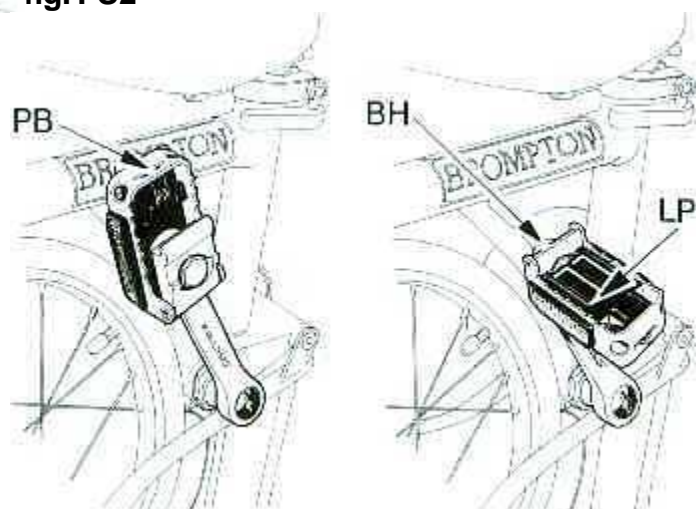

fig. FS3
*Left Hand pedal, fig FS3.* If this is fitted, unfold it by swinging the pedal body, PB, outwards. The latch plate, LP, will snap into position to lock the pedal in place.
*Saddle, fig FS1.* Undo the lever, QR, push the saddle right down, and re-clamp the lever. During this action, the lower end of the seat pillar passes behind the plastic disc, LSD, on the rear frame: it is because of this that the rear frame remains folded, in turn retaining the front wheel in its folded position. So if you do not push the saddle fully down, it is possible for the folded package to come apart when you pick the bike up. *Folding pedal, fig FS3.* It is best to fold this with the left hand crank as high as possible (i.e. with the cranks turned so that the right hand pedal touches the front wheel): also, the ridged side of the nylon latch plate on the pedal should face upwards. Press the outer part of the latch plate downwards, so that the inner part clears the top of the bearing housing, BH, and stow the pedal PB.